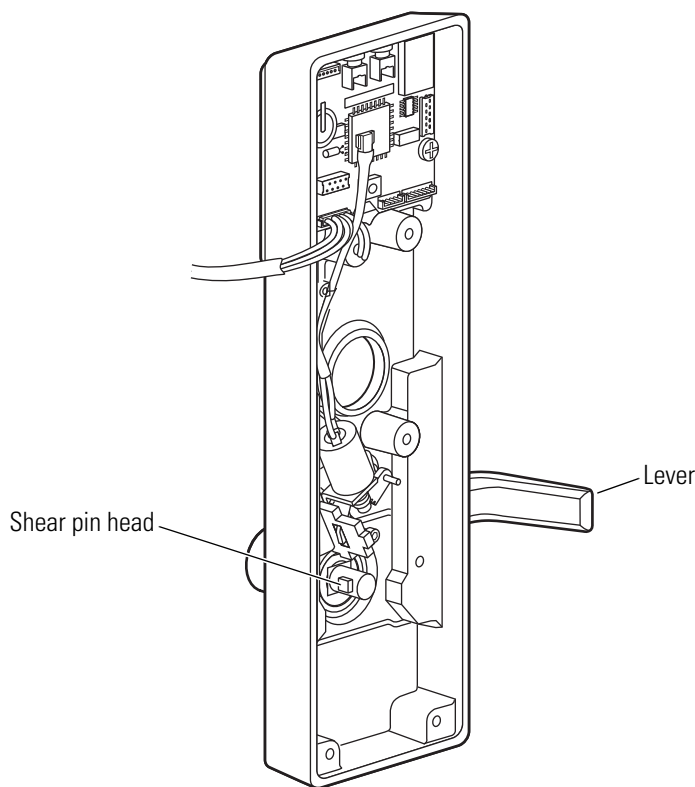

Figure 5.10 Changing the handing
2. Make sure that the shear pin is positioned in the lever so that the head faces the opposite direction of the lever handle. Then insert the lever through the escutcheon, positioning the lever so its handle will point toward the door hinges. See Figure 5.10.